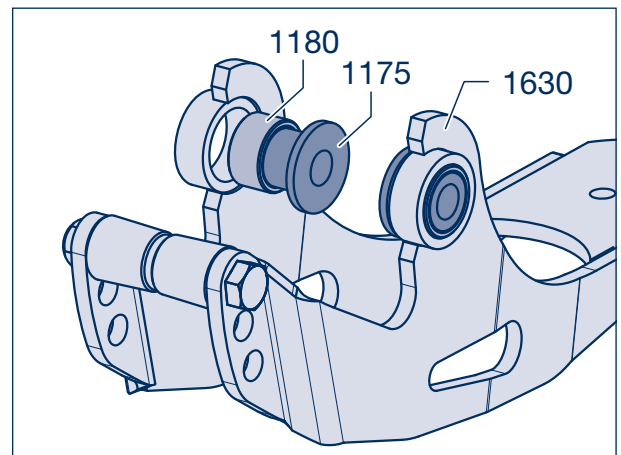

Figure 14
- [17] Drive spring bolts in to end of air suspension hanger bracket. Ensure that wear washers (1525) are installed on bush (1005) in trailing arm (1000) (see Figure 14, Page 38).